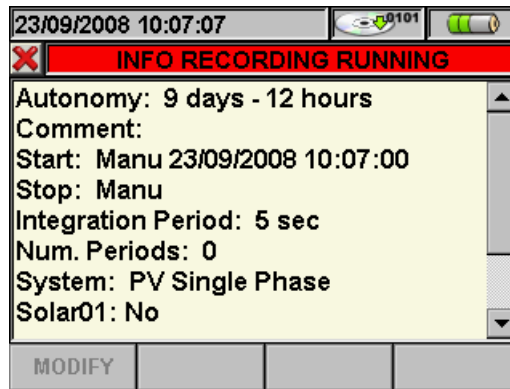

Fig. 113: Screen with information about recording in progress with PV system set
4. The screen shown in Fig. 113 contains the following information: